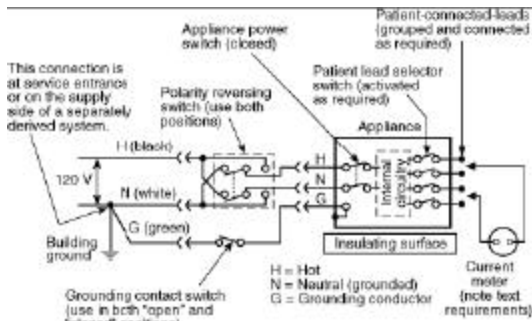

FIGURE 10.2.13.5.4.1 Test Circuit for Measuring Leakage Current Between Patient Leads (Nonisolated and Isolated).
13. See Figure 7 and Table 7 for a Test Setup synopsis. This section is based on NFPA 99 Fig. 10.2.13.5.4.1, see below.